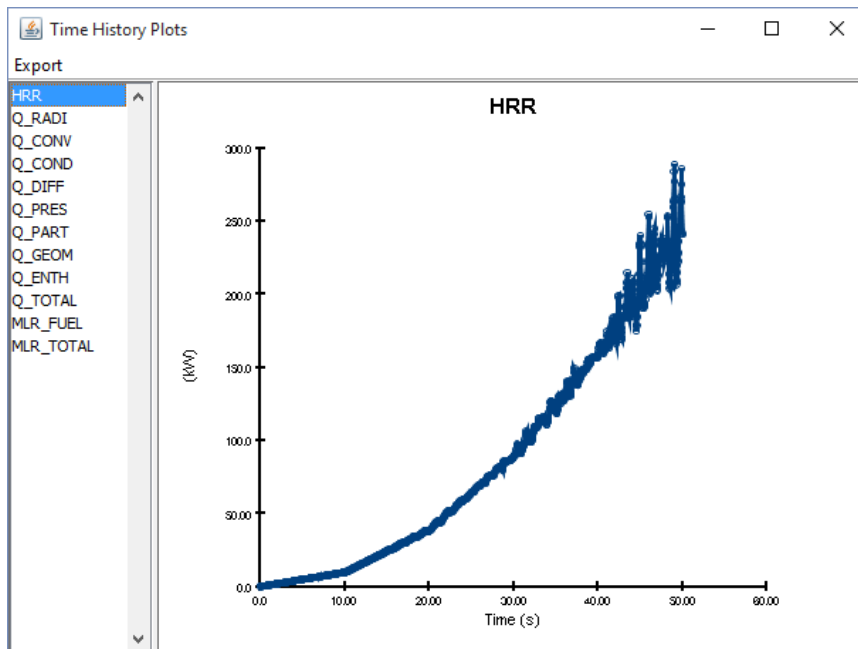

Figure 15. Time history plot of heat release rate.
2. A dialog will appear showing the different types of 2D results that are available. Select **smoke_hrr.csv** and click **Open** to view the device output. The first display will be the heat release rate, Figure 15. At 50 seconds, the expected value is the ramp fraction (0.128) multiplied by the HRRPUA (1960 kW/m^2), multiplied by the surface area (1 m^2), to obtain a value of 251 kW. This matches the calculated result.